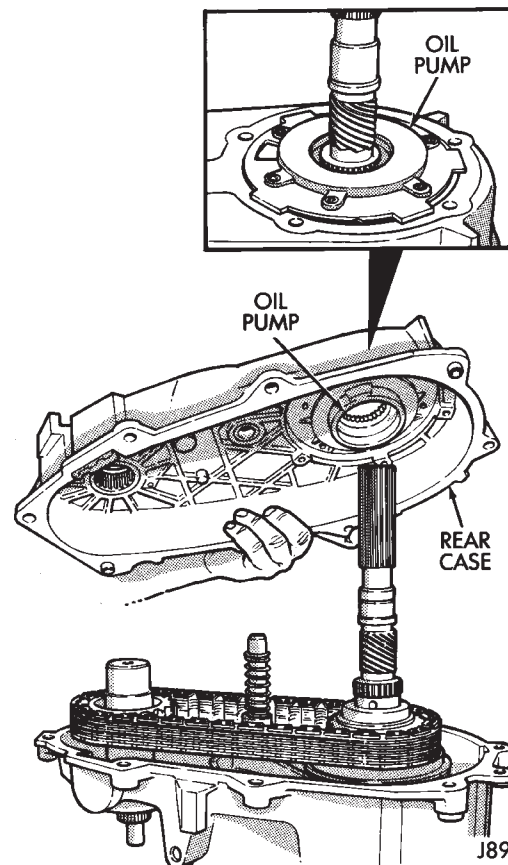

Fig. 5 Rear Case And Oil Pump Removal
(11) Remove oil pump and rear case as an assembly (Fig. 5).